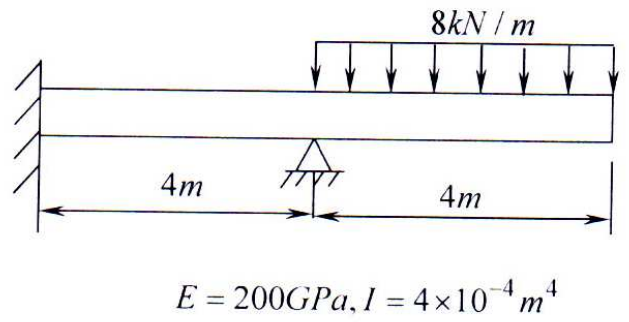

Fig. Q 7(b)
- b. For the beam shown in Fig Q 7(b), determine the nodal deflections, slopes and the vertical deflections at the mid-point of distributed load. Use two element approximation and take  $E = 70 \text{ GPa}$ ,  $I = 3 \times 10^{-4} \text{ m}^4$ . 14